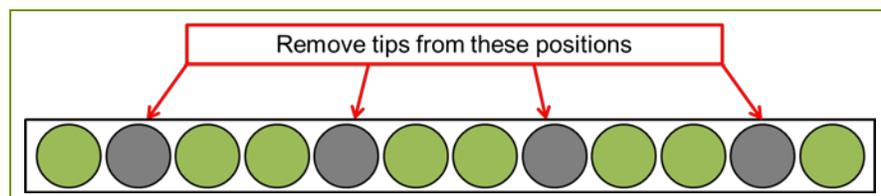

Figure 2: Tip Loading Strategy on a 12-channel Pipettor
4. Before adding medium, load a 12-channel pipettor with sterile tips according Figure 2.
4. Load a 12-channel pipettor with sterile tips as identified in Figure 2 and remove 100% of the spent medium from the 48-well MEA plate one row at a time.